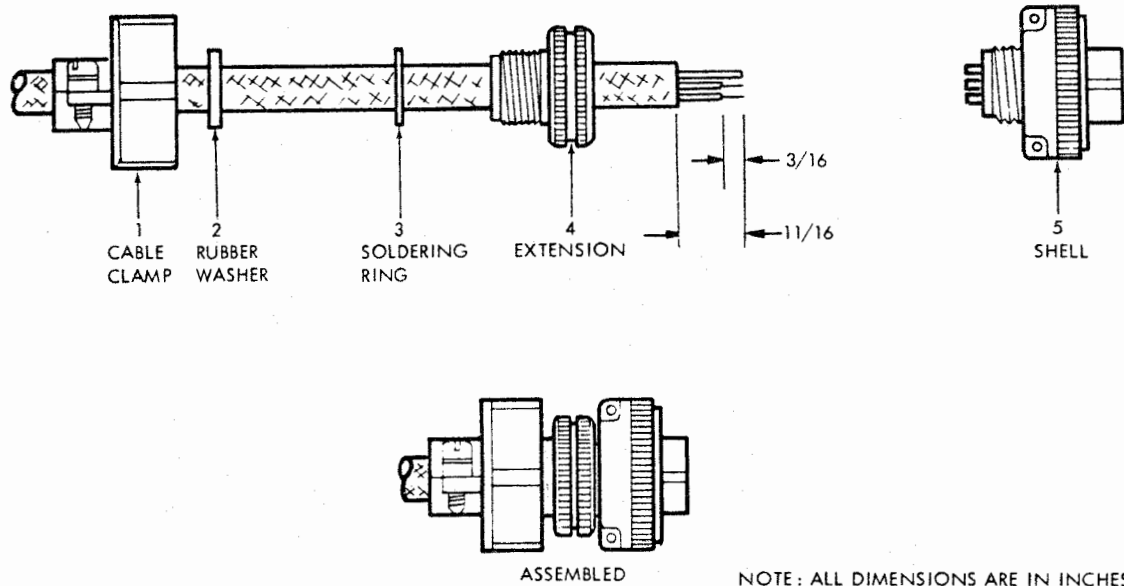

Figure 2-9. Attaching MS Plug to TTHFWA-1-1/2 Cable
| <p>Step 11. Solder pigtail to soldering ring (3).</p> <p>Step 12. Screw cable clamp (1) on extension and tighten cable clamp screws.</p> <p>(3) ATTACHING MS CONNECTORS TO TTHFWA-1-1/2 CABLE. - Attach each MS connector (supplied) to TTHFWA-1-1/2 cable as described below (see figure 2-9):</p> <p>Step 1. Cut cable end even.Step 2. Wrap layer of adhesive</p> | <p>plastic tape around armor (exposing 11/16 inch end of cable).</p> <p>Step 3. Slide cable clamp (1), rubber washer (2), soldering ring (3), and extension (4) over end of cable in order given.</p> <p>Step 4. Remove armor, vinyl jacket, and wrappings from 11/16 inch of cable.</p> <p>Step 5. Remove insulation from 3/16 inch of leads.</p> |